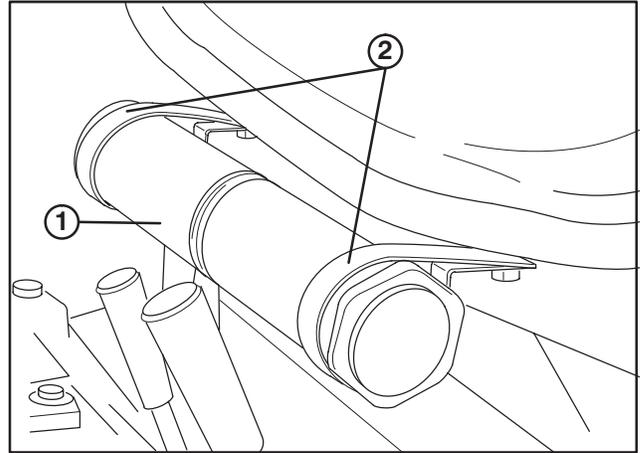

Figure 8
1. Remove manual tube and R-clamps secured to seat plate. Retain (2) mounting capscrews and flatwashers.
2. Loosely mount R-clamps to outer holes in right side of seat with (2) capscrews and flatwashers previously removed. (Fig. 8).